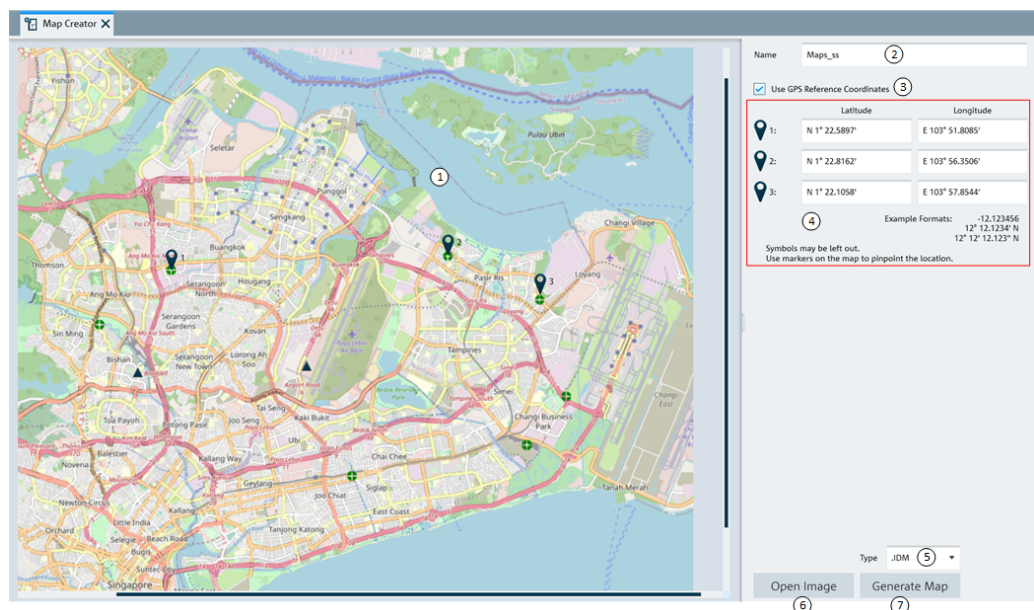

Figure 5-55: Map creator dialog box
the entry field (see item 4 of Figure 5-55). With a GPS referenced map, it provides the following useful features: